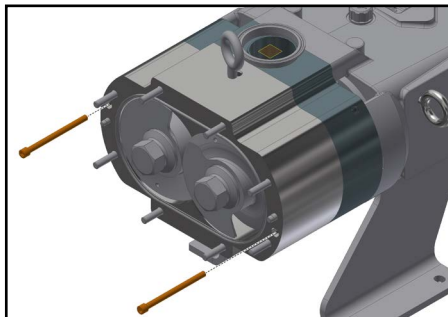

Figure 63 - Remove body-center retaining screws
1. Using an Allen wrench, remove the two body retaining screws (The body retaining screws are located next to the small dowel pins on the body as shown in Figure 63. See the diagram on page 143. The body retaining screws are item 11).